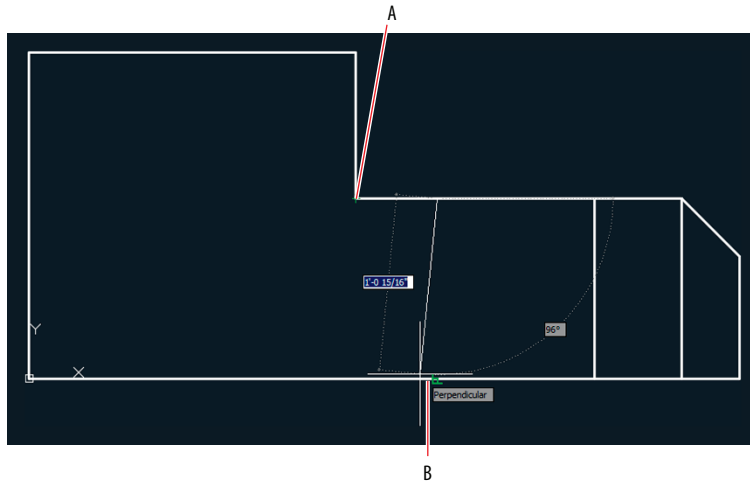

FIGURE 3.14 Drawing a line using the From object snap
9. Type **L**, and press Enter. Hold down Shift, right-click to open the Object Snap context menu, and choose Nearest. Object snaps invoked from the context menu override any running object snaps. Click point A, shown in Figure 3.14. Nearest ensures that the new line is attached somewhere along the edge of the horizontal line.
10. Move the cursor close to point B, as shown in Figure 3.14, and click when the perpendicular marker appears. Press Esc to end the LINE command.
2. Click point A shown in Figure 3.14. This is the point from which you will specify a displacement. Type **@6<0** (or **@150<0** for metric) to specify the displacement to the first point of the line, and press Enter.